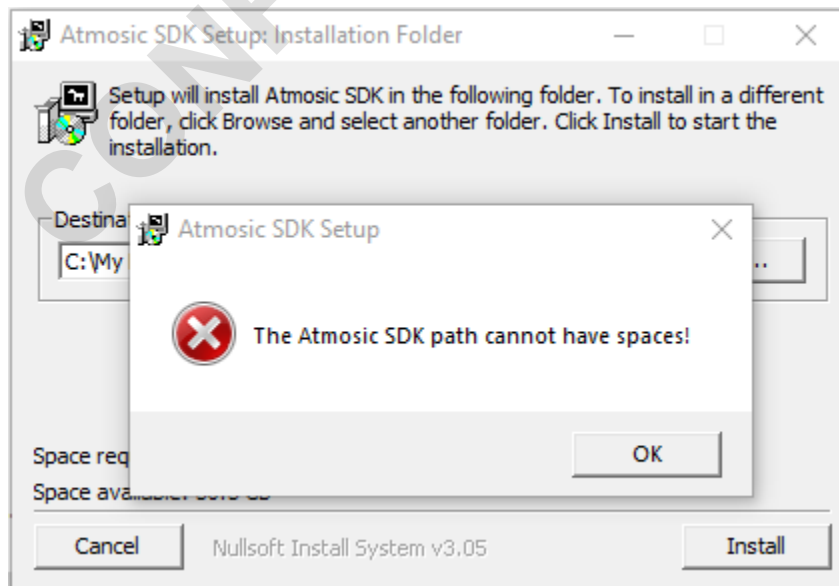

Figure 8 - SDK Installation Path Message
- Figure 8 - SDK Installation Path Message
Note: The installer cannot accept a path destination directory name with spaces. For example, “Atmosic SDK” is not acceptable while “AtmosicSDK” is acceptable. The Windows Installer will pop-up a message if the user selects an installation path name that includes spaces. See Figure 8.